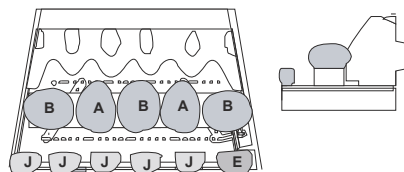

Figure 25
4. Insert the J & E pebbles onto the spikes and place the A & B pebbles on the middle matrix ensuring the same orientation as shown in **Figure 25**.